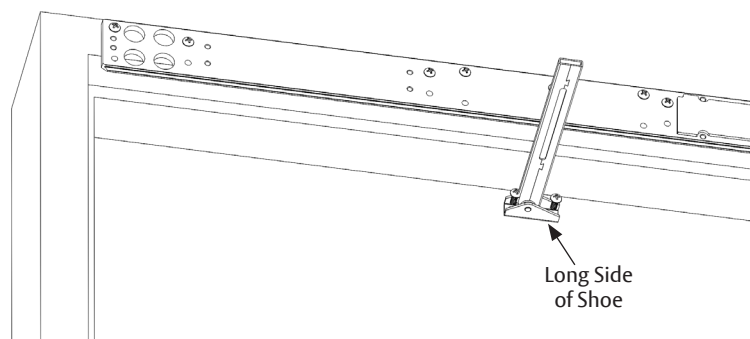

Figure 6
4. With longer side of arm shoe toward hinge, secure arm tube to door. (Figure 6)